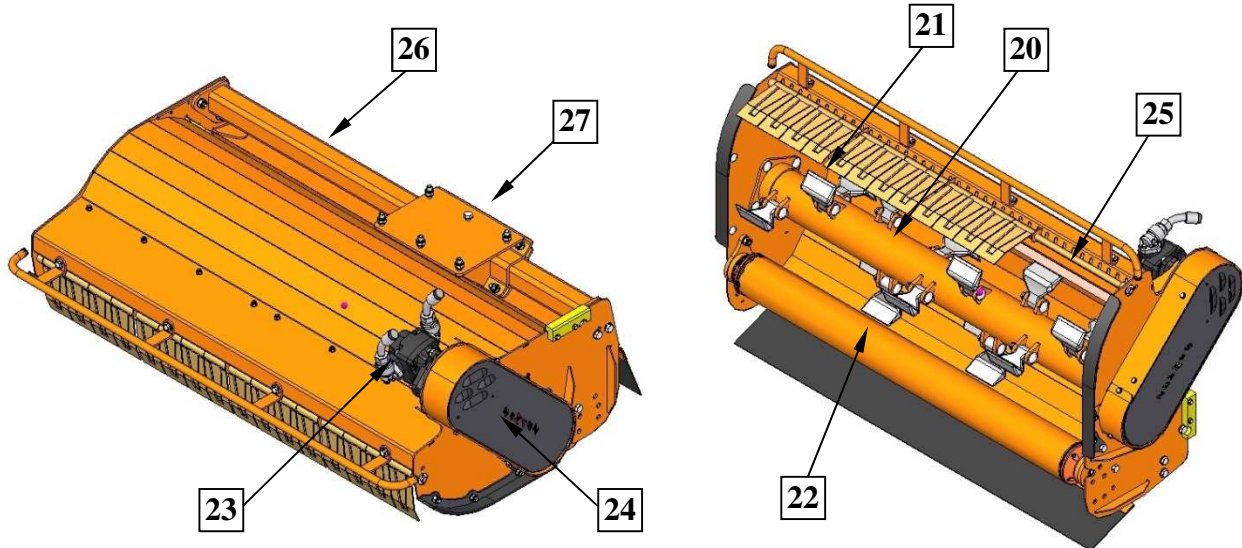

Fig. 18. Overview of mowing head KW 111/126/141
KW 111/126/141 (**Fig. 18**) – mowing head consists of flail shaft (20) with flail knives (21) dedicated for various purposes (flail type depends on the type of cut material: grass, bushes, straw, corn stalks). Machine is equipped with adjustable counter-knife (25). Flail shaft is powered by hydro-motor (23) and power is transferred through speed-belt gear (24). Slide bar is a part of the machine and the plate mount (27) can be easily adjusted. Ground shaft (22) has a cutting height adjustment function.